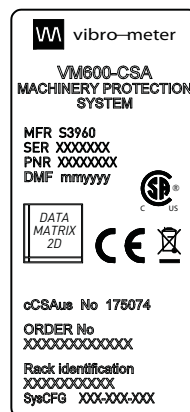

Figure 2-17: Example VM600SYS label (later versions of VM600 system racks)
- A VM600SYS label on a rear panel provides additional information about the VM600 system such as order number and system configuration (SysCFG) number (see Figure 2-17).